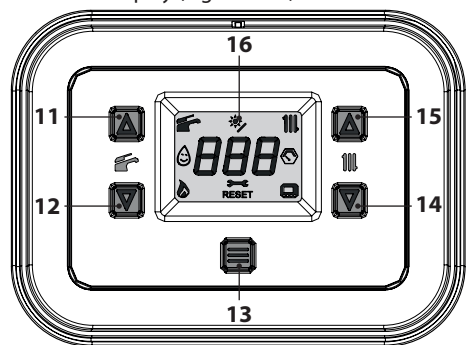
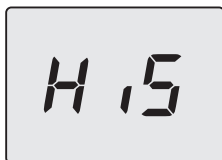
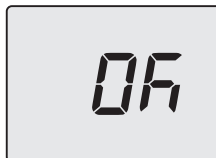

Figure 5.38
Figure 5.39
Figure 5.46
- Enter "programming mode" by pressing the 12 and 14 keys simultaneously for 5 seconds (Figure 5.38) until **HiS** (Boiler History) appears on the LCD display (Figure 5.39).
- Press the 13 key for 1 second (Figure 5.38) to enter the selected parameter. The display will show the following (Figure 5.42).
- Press button 13 (Figure 5.38) to confirm the value entered. The display will show the following (Figure 5.43) for 5 seconds, then move up to the next level.
- Press the keys 12 and 14 simultaneously (Figure 5.38) to exit the level without changing the value (return to the previous level).
- press the 12 and 14 keys simultaneously for 5 seconds (Figure 5.38) (return to previous level).
- Press the 13 key for 1 second (Figure 5.38) to enter the selected parameter. The display will show the following (Figure 5.45).
- Press button 13 (Figure 5.38) to confirm the value entered. The display will show the following (Figure 5.46) for 5 seconds, then move up to the next level.